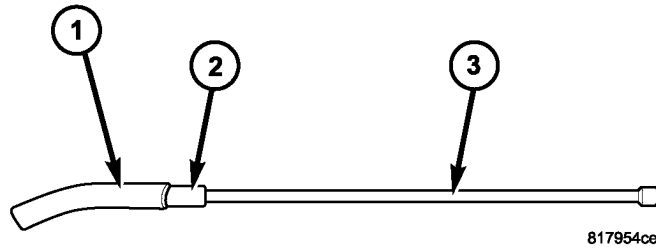

Fig. 1 FABRICATED PLUG FOR XK VEHICLES
4. On XK vehicles (other vehicles proceed to next step), fabricate the cooling coil drain plug as follows (Fig. 1):